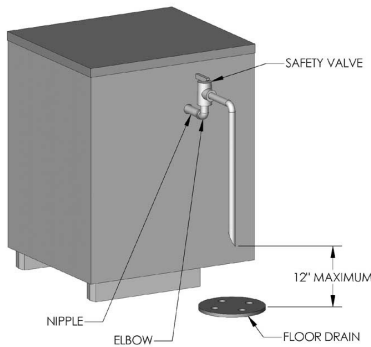

Figure 6.1
- a. Pipe the boiler safety valve provided into the 3/4" tapping on the left side of the boiler as shown in Figure 6.1. Be sure that the relief valve is sized in accordance with local code requirements. In addition, be sure that the safety valve is designed and stamped in accordance with the ASME Boiler and Pressure Vessel Code, Section IV.